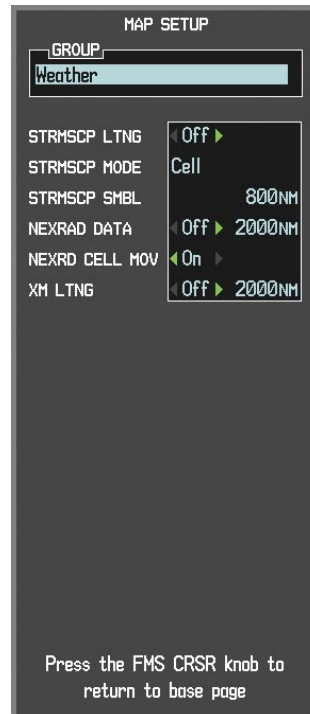

Figure 6-38 Map Setup Menu
- 3) Turn the small **FMS** Knob to display the group selection window. Turn the small **FMS** Knob to select 'Weather' (Figure 6-38), and press the **ENT** Key.
The following options are available (Figure 6-38):